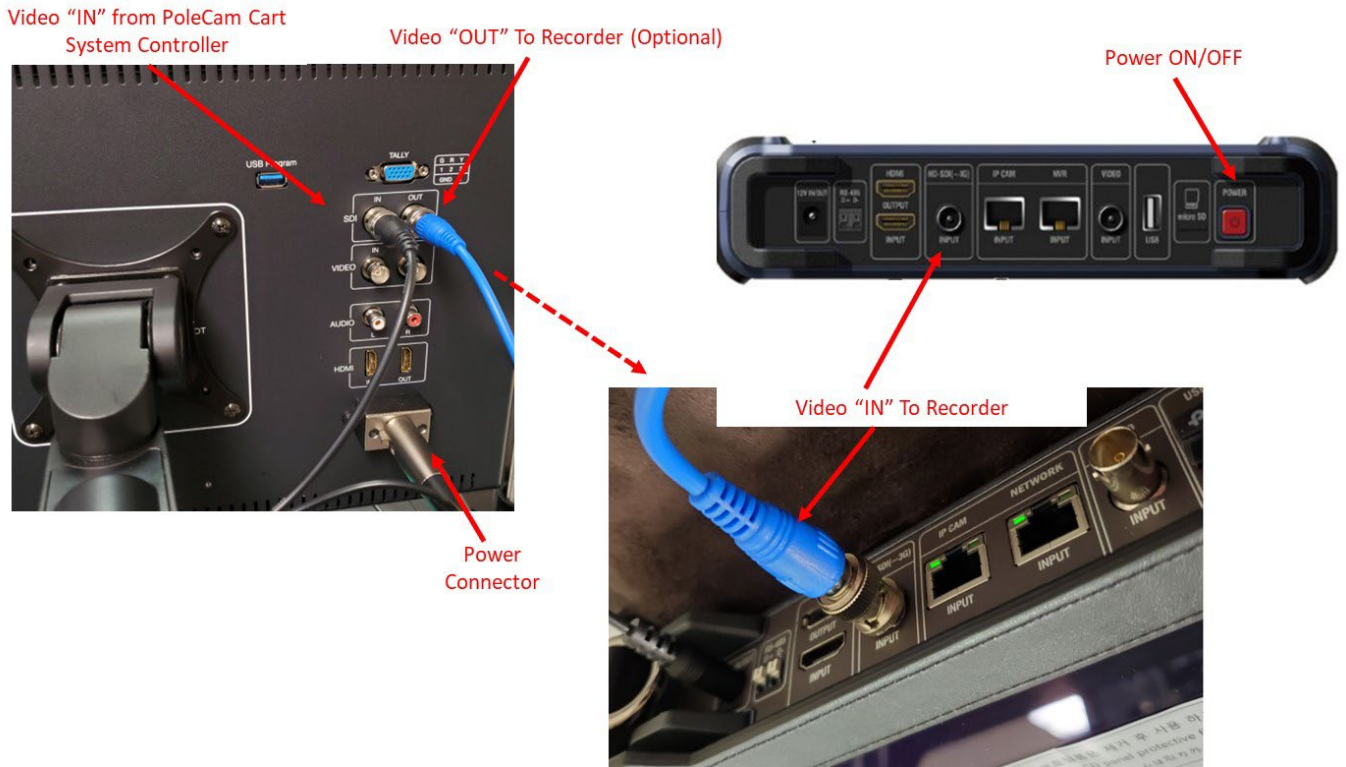

Figure 17 External Recording Connection (Optional)
- 6) Connect external recording device (Optional) as shown in Figure 17